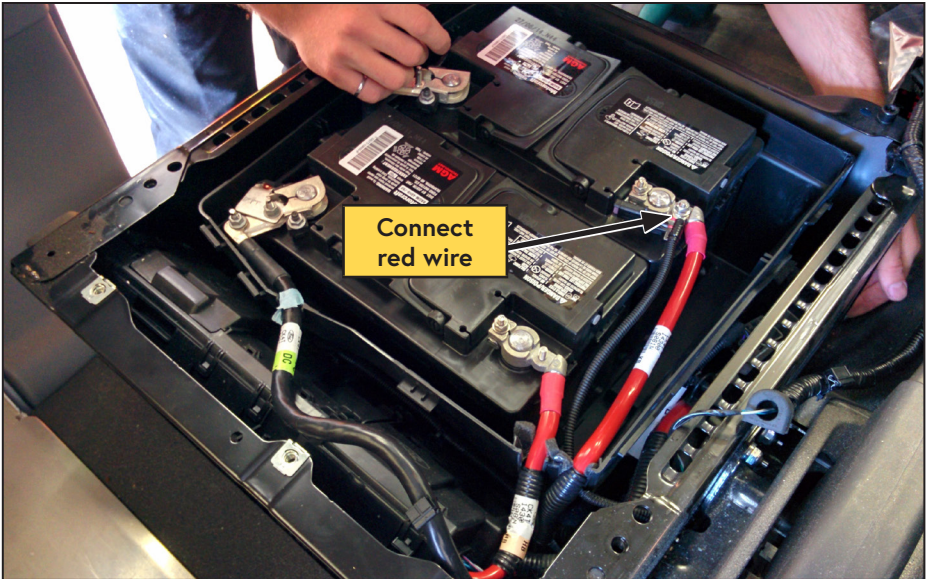

Figure 63 — Connect red wire
- Connect the other end of the fuse holder to the positive battery terminal. (Figure 63).